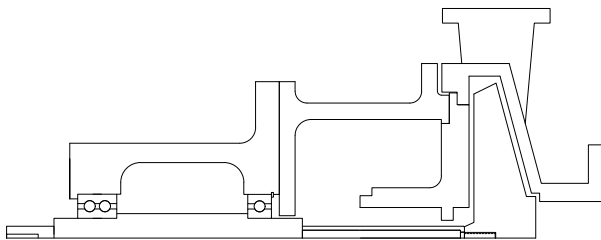
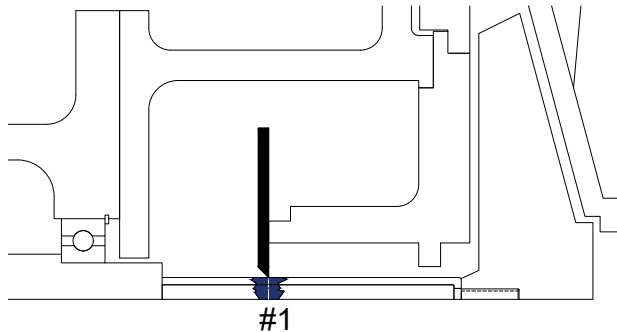

Figure 8: Fully assembled pump without seal
Figure 9: Layout dye application and scribe
1. Reassemble the pump, including the shaft sleeve, seal chamber cover, and impeller as shown in Figure 8. After adjusting the impeller, apply layout dye to the shaft (or shaft sleeve) at the face of the seal chamber, and scribe a line in the dye showing the location of the chamber face as shown in Figure 9.